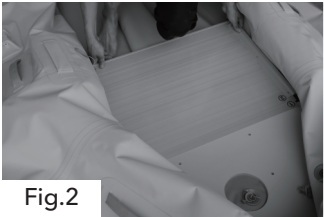
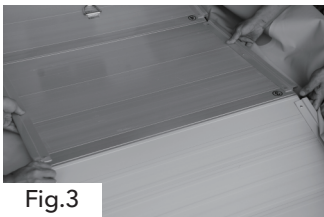

Fig.2
Fig.3
- 1.1 Start the assembly from deck board installation. Insert the Board #1 into the bow and push it forward until the Air Valve of the inflatable Keel is aligned with the hole on the board. Lift the sides of the boat as necessary in order to slide the Board #1 into place. (Fig. 3)
- 1.2 Insert the Board #3 into the stern and push the board under the transom. (Fig. 2)
- 2.2 Insert the Board #4 into the stern and push the board under the transom. (Fig. 2)
b. Insert second and last sections of the floor.(Fig.2)
c. Lift the middle section a bit and create a roof-like structure.(Fig.3)
a. Start by fitting the wooden bow board between the air tubes and bottoms. Push it forward as far as possible until it reaches the top of the bow (Fig. 2) and the air valve of the inflatable floor fits into the hole of the stern wooden board. Fit the back board to the rear end. (Fig. 3)
b. Lift the middle section a bit and create a roof-like structure. (Fig.3)